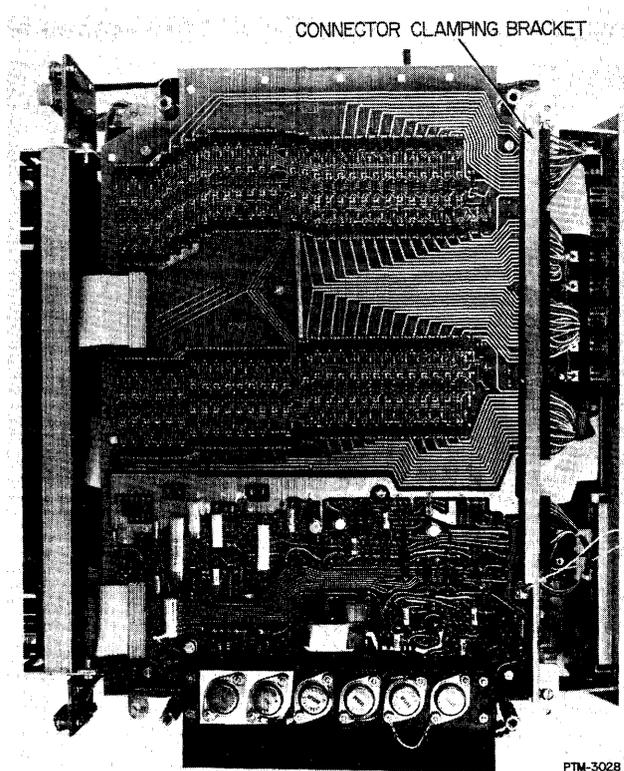

Figure 5-30. HDC Board.
(Figure 5-30)
4. Remove the connector clamping bracket from under the Printer (see Figure 5-30).